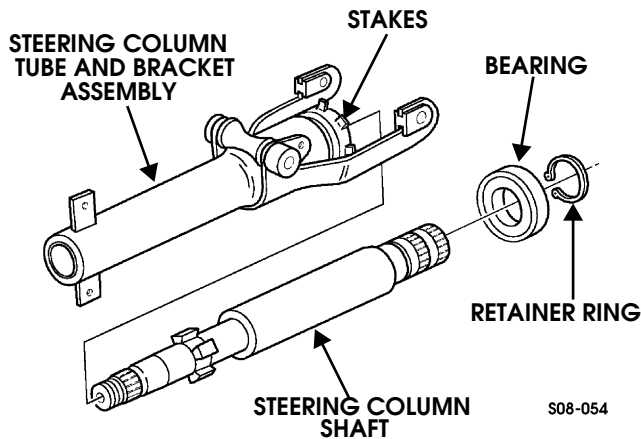

Figure 8-15: Steering Column and Shaft
5. Remove six stakes from the tube and bracket assembly (Figure 8-15).
1. Install the shaft, bearing, and retainer ring into tube and bracket assembly (Figure 8-15).
3. Stake bearing securely in six (6) places (Figure 8-15).
3. Remove six stakes from the tube and bracket assembly (Figure 8-15).
1. Slide bearing onto shaft and secure it with retaining ring (Figure 8-15).